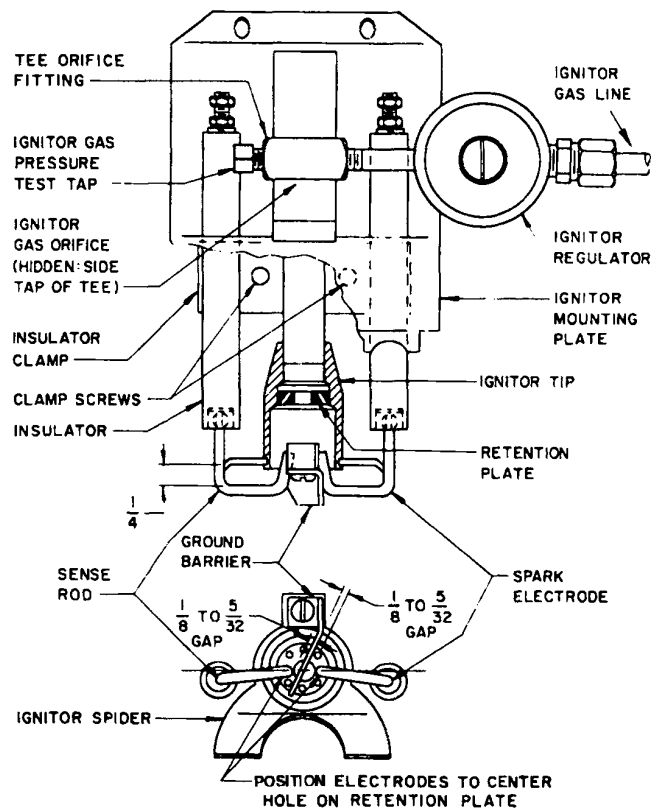

Figure 5: Ignitor and Flame Sensor Assembly
□ When the ignitor gas pressure is in the proper range (see Table 3) and the electrodes are adjusted to the dimensions shown in Figure 5, any ignition problems are usually caused by lint, dust, corrosion, cracked electrode insulators, foreign matter in the blast tube or deterioration of ignitor ports in Retention Plate.
- Ignitor trouble will be evidenced by failure of main burner ignition. It may cause frequent Electronic Control lock-out. Check for dirt in the ignitor air and mixture passageways and check for obstructions in the ignitor ports. Also check electrode adjustments (see Figure 5). Replace any severely burned parts.
- Clean the Ignitor Gas Orifice in Tee Orifice Fitting (see Figure 5) and check that the orifice size is correct per Table 3.
- Check that the electrode ends are positioned and that the gap between the end of each electrode and the ground barrier is spaced per Figure 5.
- c. Check for spark between Spark Electrode and ground barrier. See Figure 5. If ignitor tip is not visible with burner mounted, but spark can be heard, continue with Step G4. If spark cannot be heard, refer to Section VIII Ignitor and Regulator Assembly for spark test.